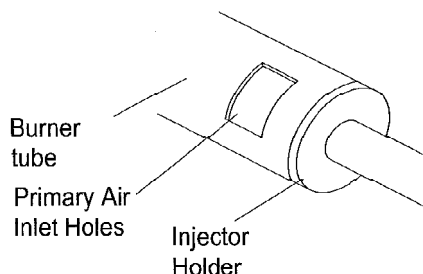

Figure 17 - Injector Holder On Outlet Burner Tube
2. Inspect burner, pilot and primary air inlet holes on injector holder for dust and dirt (see figure 17).